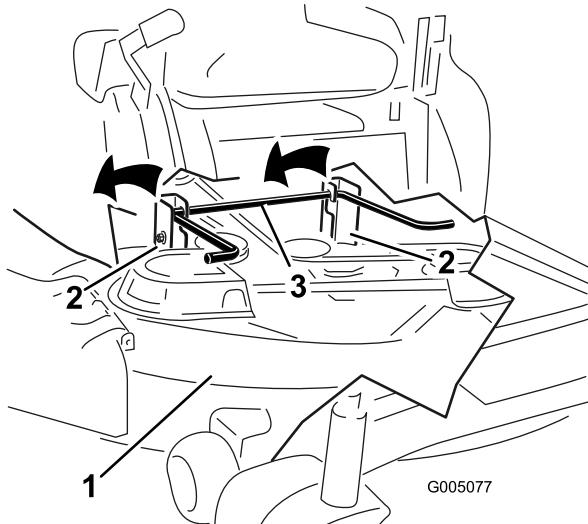

Figure 60
5. Lift the mower deck and hanger brackets clear of the rear lift rod and lower the mower carefully to the ground (Figure 60).
5. Lift the rear of the mower deck and guide the hanger brackets over the rear lift rod (Figure 60).